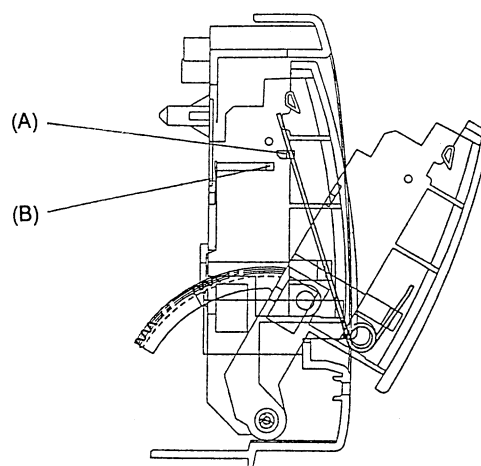

Fig. 6-1
Set the door spring of the DECK I side to position (A) as shown in Fig. 6-1 Then, erect the front panel assembly vertically.